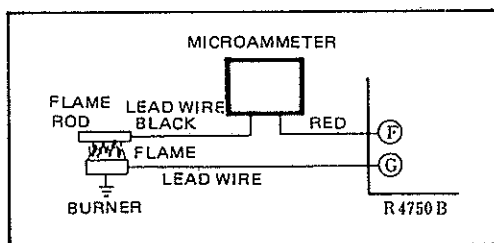

Fig. 12 Method of measuring flame current
Connect a microammeter between terminal (F) and the flame rod, as shown in Fig. 12, then operate the burner and read off the flame current. Normally, the flame current is 2 to 6 μ A, a value of at least 2 μ A being necessary. Also, the flame current must be stable. Confirm that the meter does not fluctuate unduly. If it is not possible to obtain a stable flame current, one or more of the following are conceivable causes, hence they must be carefully checked:
- ① Power supply voltage and/or frequency is not correct.
- ② Supply gas pressure and/or air-fuel ratio is not correct.
- ③ Connection to flame rod and burner is not correct.
- ④ Flame rod improperly installed